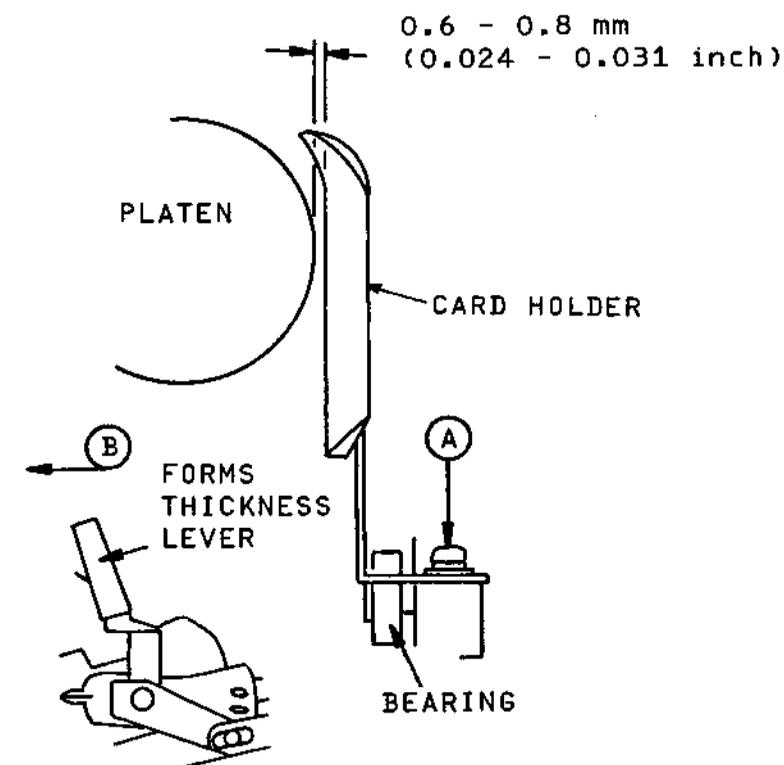

Figure 5-8 Card Holder Adjustment
- a. Push forms thickness lever toward arrow direction B (Figure 5-8).
- b. Loosen screw A in Figure 5-8.